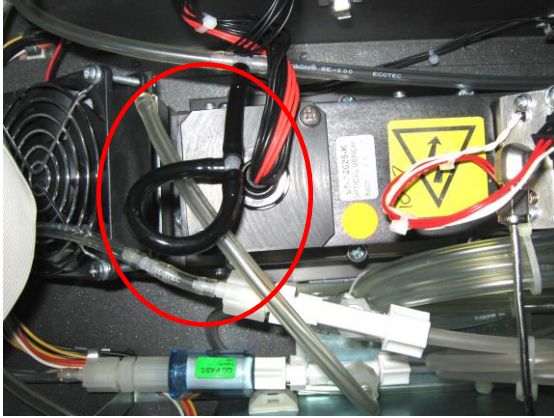

Figure 42 – Blocking exhaust T-piece
4. Remove the tubing connecting the dryer to the exhaust line and block the exhaust line T-piece (see Figure 42 – Blocking exhaust T-piece).